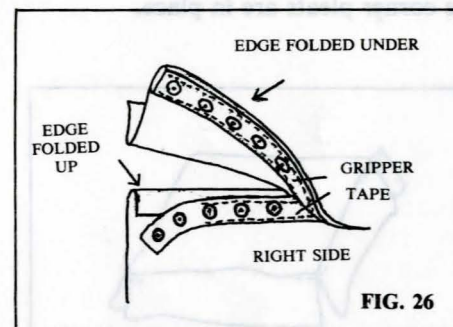

FIG. 26
**To Apply Snap Tape**—Fold under 1/2" on one piece of boxing and turn up 1/2" on the other piece. Sew snap tape on the under side of the first piece and on the top side of the second piece, covering the 1/2" seam allowance (Figure 26).